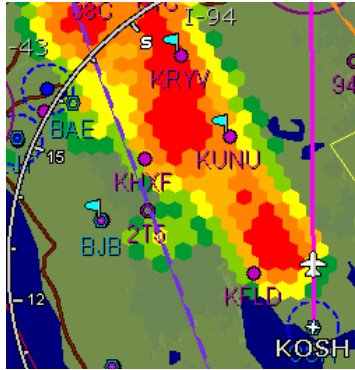

Figure 2.3 TWXCELL Mode Display
- ◆ **TWXCELL** - If Wx Ovly is set to TWXCELL, the EX500/EX600 displays thunderstorm cells detected by the TWX670, using colors (Table 2.1) to indicate levels of storm intensity. For example, Figure 2.3 shows an aircraft located at the edge of intense thunderstorm activity. In this instance, the aircraft must be flown away from the thunderstorm. The TWX670 detects and measures lightning strike energy and generates cell data that the EX500/EX600 displays
The EX500/EX600 Map page uses included and optional sensors to depict the position of your aircraft in relation to the following: your flight plan, nearby airports, terrain, traffic, lightning, special use airspace and other nav aids (see Figure 2.3).